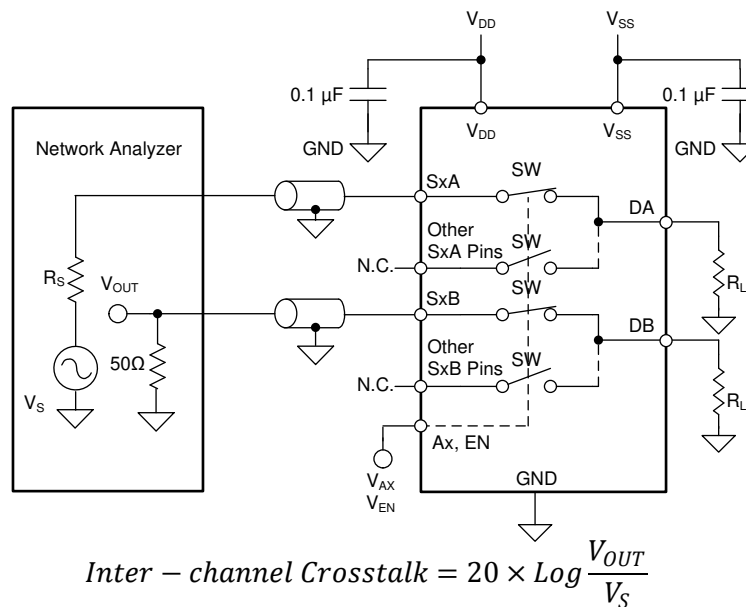

Figure 8-14. Inter-channel Crosstalk Measurement Setup
2. Inter-channel crosstalk ($X_{TALK(INTER)}$): the voltage at the source pin (Sx) of an on-switch input, when a $1-V_{RMS}$ signal is applied at the source pin of an on-switch input in a different channel, as shown in Figure 8-14. Inter-channel crosstalk applies only to the TMUX7309F device.